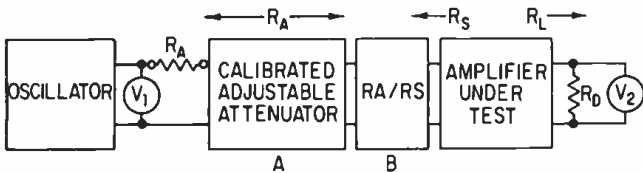

Figure 3. This simplified EIA measuring system can also be used to determine insertion gain.
A simplified version of the same circuit is shown in FIGURE 3, with symbols as before. In this version the output matching network and calibrated output attenuator have been eliminated. Instead, the load resistance for the amplifier, R_D is connected directly to the amplifier's output. Using this arrangement, the insertion gain is the same as that of Equation (11) with the exception that losses C and D are not used.
Commercially made gain sets may not have the voltage measuring points at the same circuit locations as those indicated in FIGURES 3 and 4, and therefore the gain figures obtained may not agree with those made by the methods presented herein.